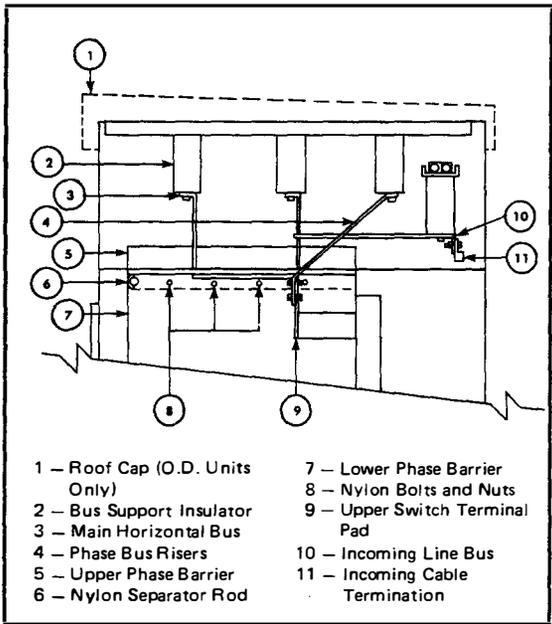

Fig. 9A Section View, Superstructure Assembly
3.9 Superstructure assembly (See Figs. 9A and 9B)